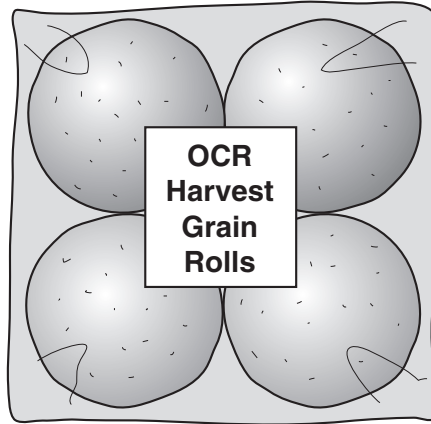

Fig. 4
Fig. 4 shows a bread product.
(a) Give **four** justified design requirements for the bread product shown in Fig. 4.
- (e) (i) State a suitable flour for making the bread product shown in Fig. 4 and give **two** properties of the flour that make it suitable for this use.
- (ii) Describe, in detail, how the bread product shown in Fig. 4 would be manufactured. Include details of all ingredients and the scientific principles underlying the process. Do not include the packaging. Use a flowchart and/or annotated diagrams to support your answer.